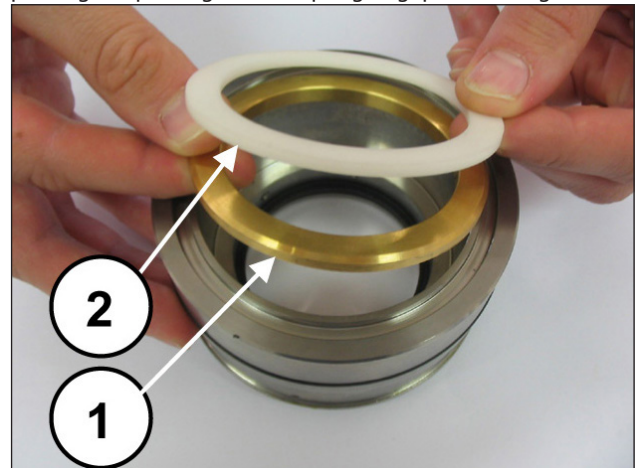
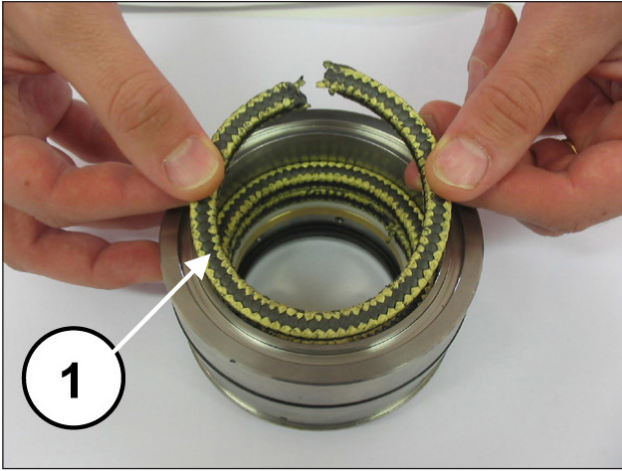
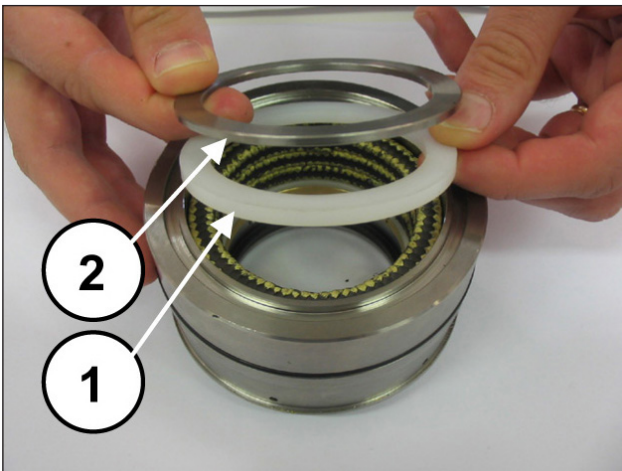

Fig. 165
Fig. 166
Fig. 167
Assemble the support ring and the anti-extrusion ring (pos. ①②, Fig. 165), the three packings making sure the notches are at 120° from each other (pos. ①, Fig. 166), the packing scraper ring and the spring ring (pos. ①②, Fig. 167).